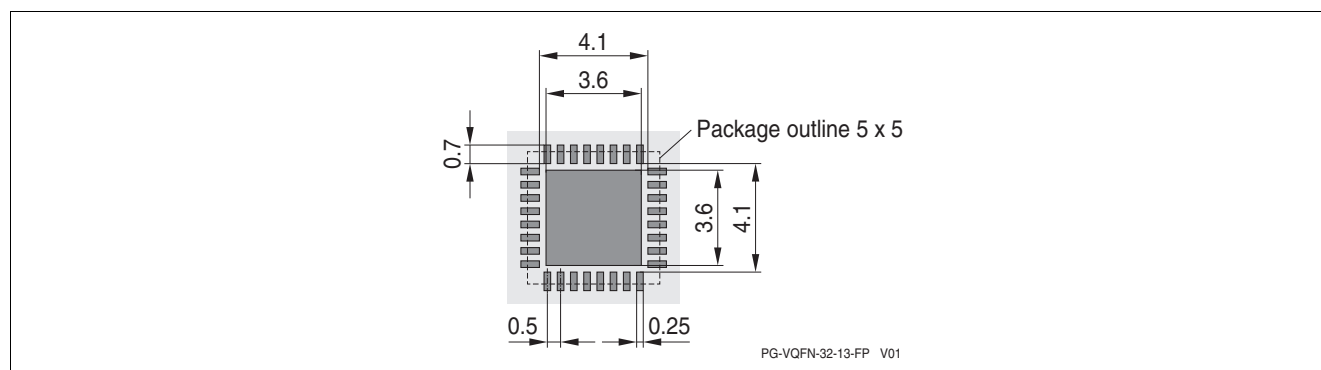

Figure 5-3 Recommended Footprint PG-VQFN-32-13
**Figure 5-3** shows the recommended footprint for the PG-VQFN-32-13 package. The exposed pad of the package is internally connected to GND. It shall be connected to GND externally as well.